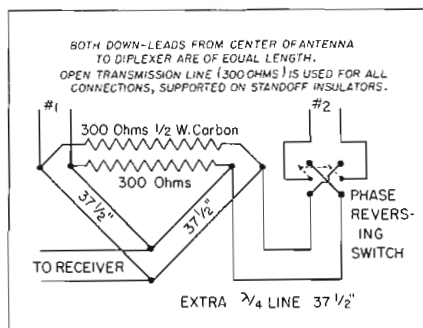

Fig. 4: Diplexer circuit used at receiver
**Step 4.** At the receiver, a sort of "resistance diplexer" is employed to keep the standing wave ratio low and to afford a phasing network for the receiver connection. The loss of signal in this is about 10%. Note the position of a D.P.D.T. switch (ordinary H & H toggle) used for reversing the phase of the signal from one down-lead. The directivity of the array is reversed in this way. These connections are shown in Fig. 4.